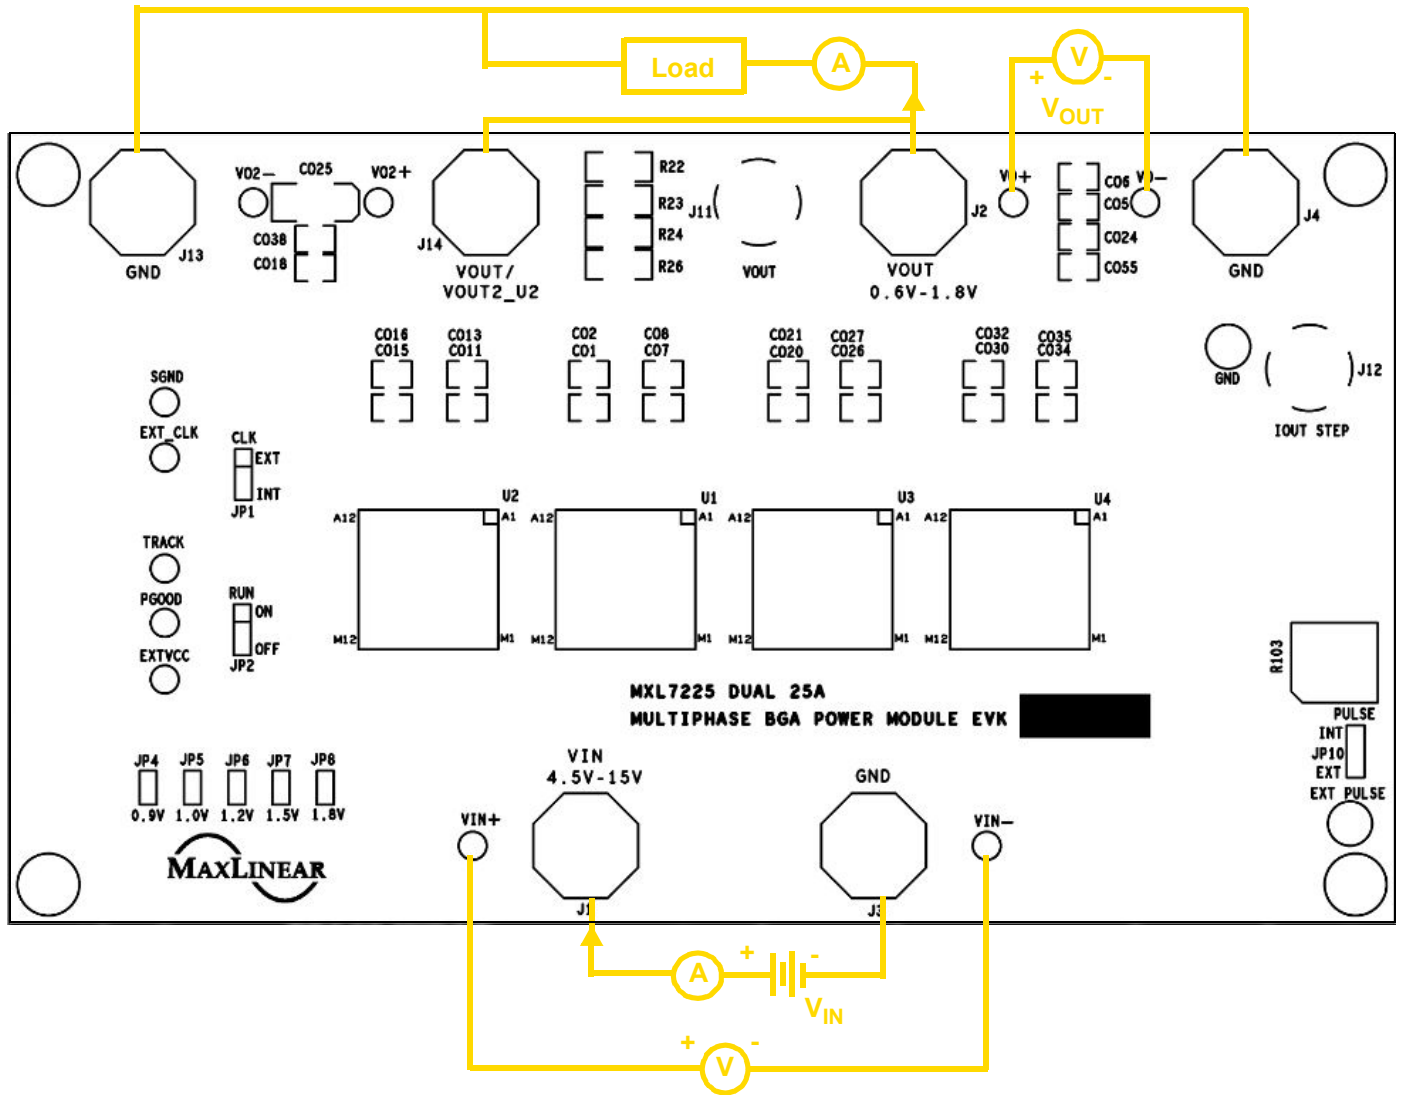

Figure 1: Monitoring V_{IN} and V_{OUT}
2. With a power supply turned off and within a V_{IN} specification of 4.5V to 15V (12V typical), connect it to VIN and GND with short, thick leads. Use test pins VIN+ and VIN- to monitor VIN and GND respectively. See locations in Figure 1.
3. For the output, connect a meter and electronic load initially set to 0A, that will be no more than the above maximum I_{OUT} (140A), to VOUT and GND with short / thick leads capable of this current. See setup and locations in Figure 1.